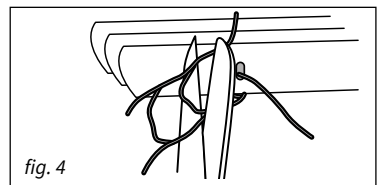
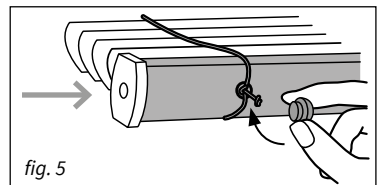

fig. 4
fig. 5
**6.7** Knot lift cord directly beneath the bottom weight bar and cut off excess cord [fig. 4]. Allow one extra rung and cut off excess ladder, now tuck remaining ladder into the bottom weight bar cap holes. Then replace the caps [fig. 5].